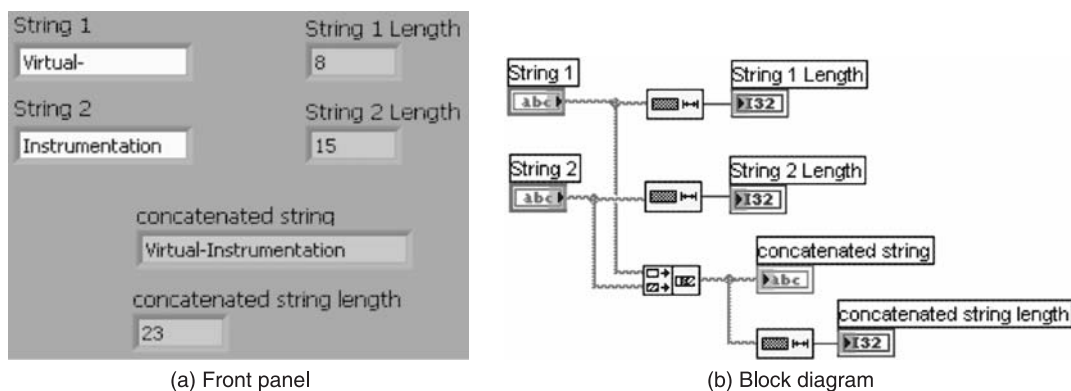

Figure P9.1
**Solution** The front panel and the block diagram to solve the string problem are shown in Figures P9.1(a) and P9.1(b).